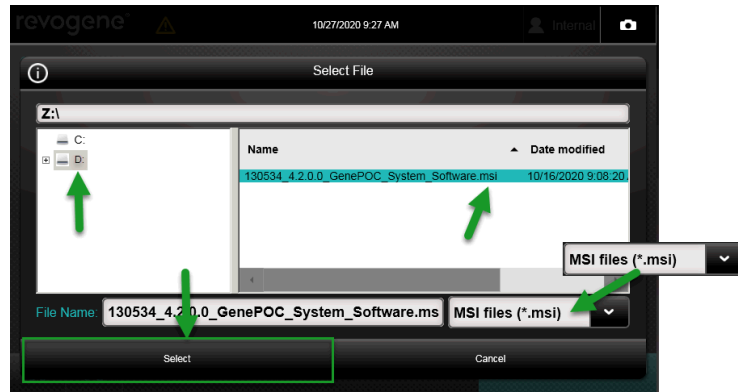

Figure 4. Installer File Selection Window
6. A window will appear. Select the USB drive (D:). The default format should be .msi. If not, change the format of the file to .msi (MSI files). (Figure 4)